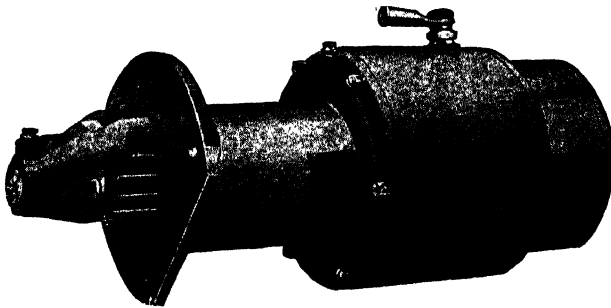

Fig. 314. Remy Starting Motor with Outboard Type Bendix Pinion
**Starting Motor.** The motor is the 6-volt 4-pole series-wound type, illustrated in Fig. 314, mounted either with gear reduction